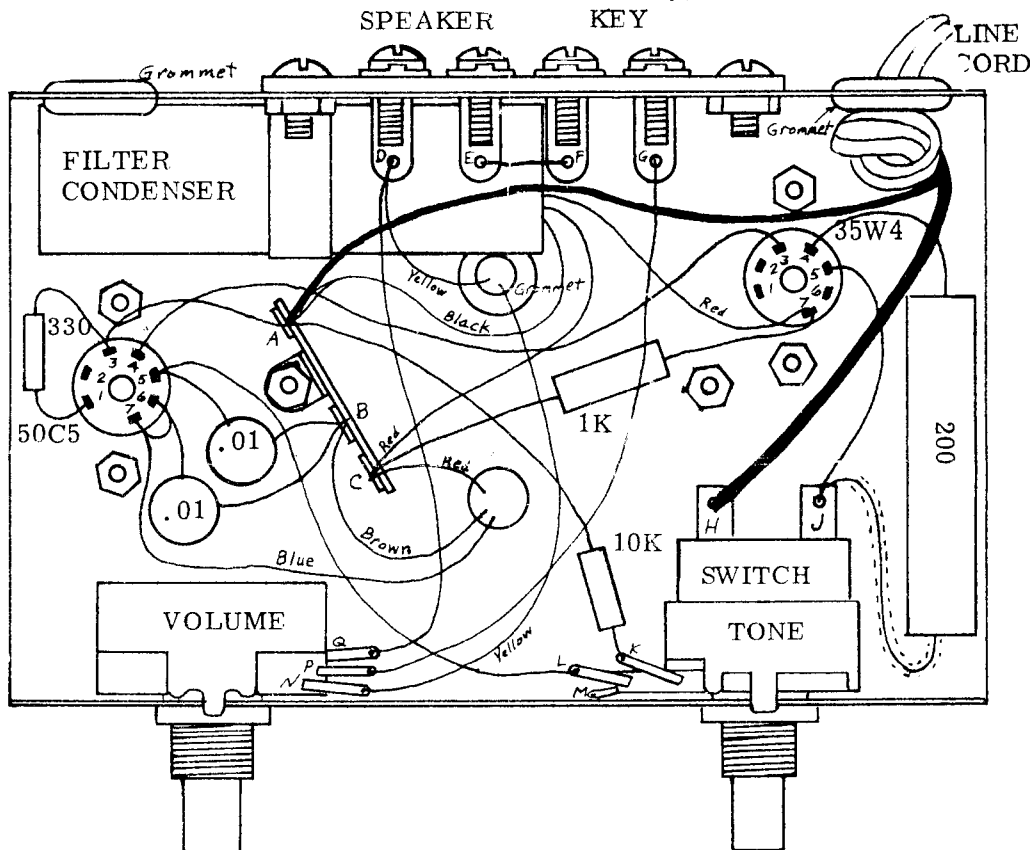

Fig. 1. CPS Chassis, bottom view.
1. Mount the two tube sockets from the top of the chassis, using 6/32 round head screws, lockwashers and nuts. See Fig. 1 for the correct positioning of the wide spacing between two of the socket terminals. The lockwasher should be placed between the nut and the chassis.
2. Mount the 4 screw terminal strip on the rear of the chassis. See Fig. 1 for the correct position of the strip since there are actually two positions that it can be mounted in. Use a 6/32 screw, a lockwasher and a nut on the mounting hole near the 35W4 socket. Use the other mounting hole to mount the filter condenser. Bend the strap on the filter condenser slightly so that the condenser fits neatly into the corner of the chassis.
3. Place grommets at three holes: one at each end of the back of the chassis (near the ends of the 4-screw terminal strip) and the other in the top of the chassis, near the rear. See Fig. 1.
4. Mount the transformer on the top of the chassis, using two 6/32 screws, two lockwashers and two nuts. Note the position of the transformer leads in Fig. 1.
Mount the 4-lug terminal strip using the transformer mounting hole nearest the 50C5 socket. See Fig. 1 for the correct position of this strip.
5. Mount the volume control and the tone control on the front of the chassis as illustrated in Fig. 1. Use a lockwasher between the control and the chassis and a nut outside the chassis.
For best results, refer frequently to Fig. 1 for placement of parts and leads. In some cases, more than one wire or part will go to the same terminal. This situation will be indicated in the instructions by the abbreviation (CR). This will mean that the connection should be crimped but NOT soldered until other leads have been connected to the terminal. When the last lead has been connected, the joint should be soldered